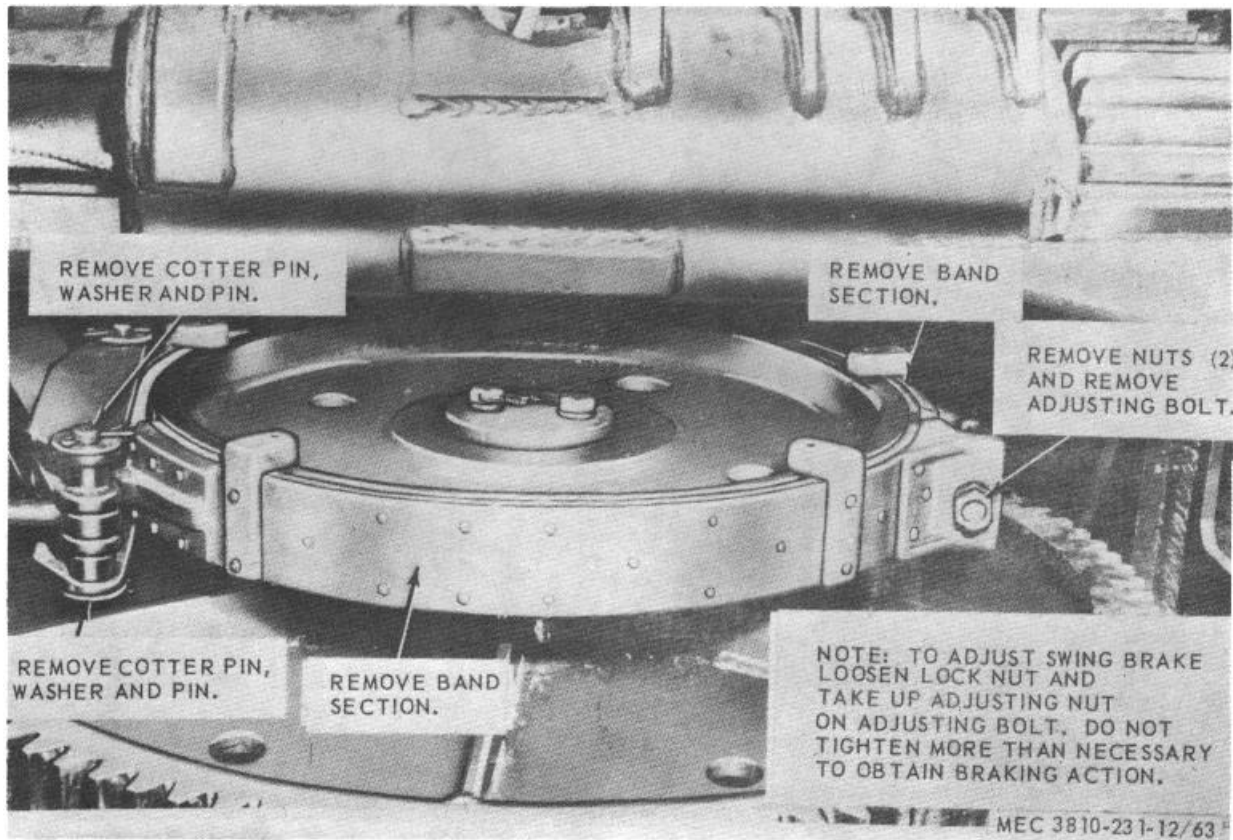

Figure 63. Swing brake adjustment, removal and installation.
a. *Adjustment.* Adjust swing brake band as instructed on figure 63.
b. *Removal.* Remove swing brake band as instructed on figure 63.
- (1) Clean all parts with an approved cleaning solvent and dry thoroughly.
- (2) Inspect the lining for excessive wear, glazing and other damage. Replace a
d. *Installation.* Install the swing brake band as instructed on figure 63.